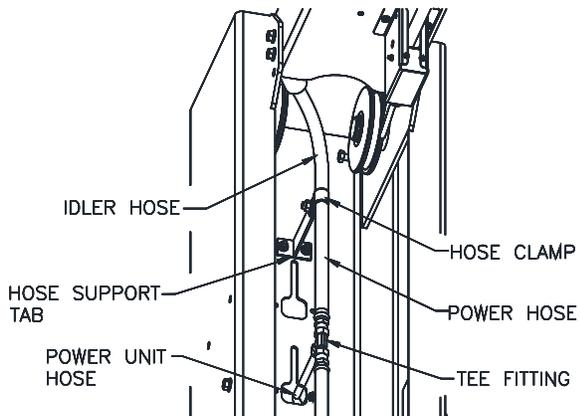

Fig. 16 – Power Side Hose Routing
- 41) Tighten the three hose fitting connections at the Tee taking care not to twist or change the lay of any hose. Install and tighten the "P" clamp on the power side to hold up the connection to the tee, see Fig 16.